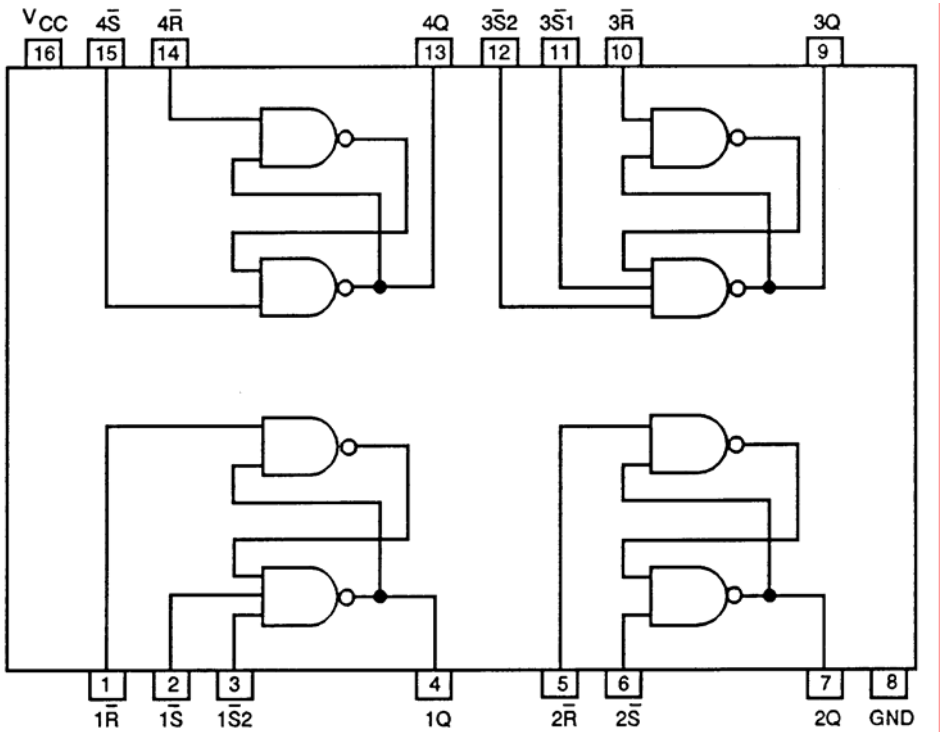

Figure Q-27. 74279 IC Chip
(15) R-S FFs are generally used in situations where a memory function is required which is not synchronized with the rest of the sequential circuits. As an example, you could tell a piece of equipment to move up or down by assigning Q and \bar{Q} to up and down and then supply the correct inputs for the desired result. The example of a R-S FF, the 74279 IC chip in Figure Q-27 is actually an $\bar{R}\text{-}\bar{S}$ FF.